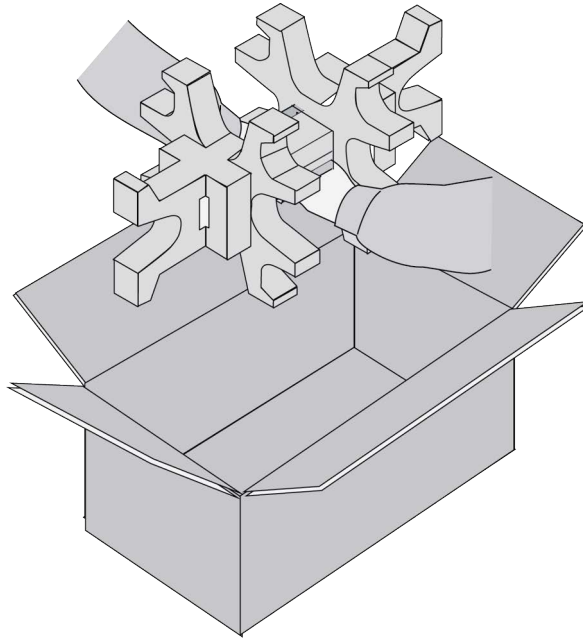

Figure 36. Removing the Power Supply from the Shipping Box
3. Lift the power supply from the shipping box and place it on a level, secure table. Refer to Figure 36 on page 97.